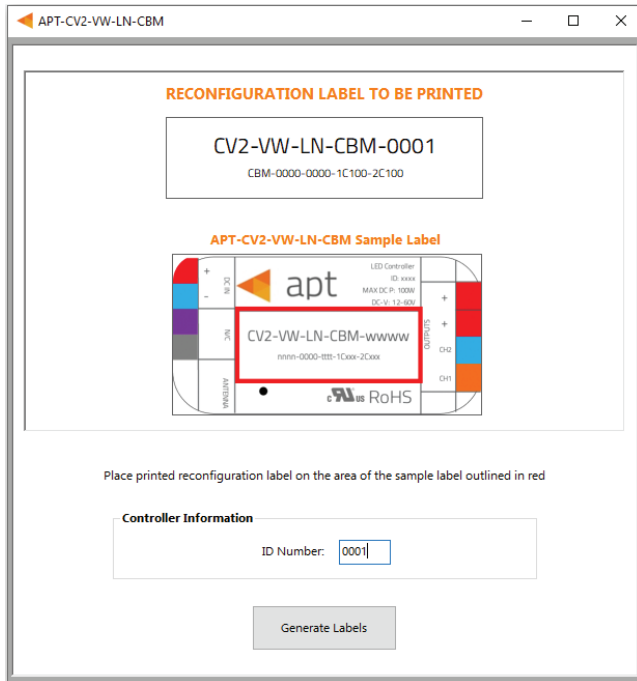

Figure 12: Label Generation window
Tip: Scroll to the bottom of the window to see graphs (shown in Figures 12 & 13) of the current INT mapping configuration.
- 1 Select **File > Generate Label** or press **Ctrl +L** to open the Label Generation window (shown in Figure 12).